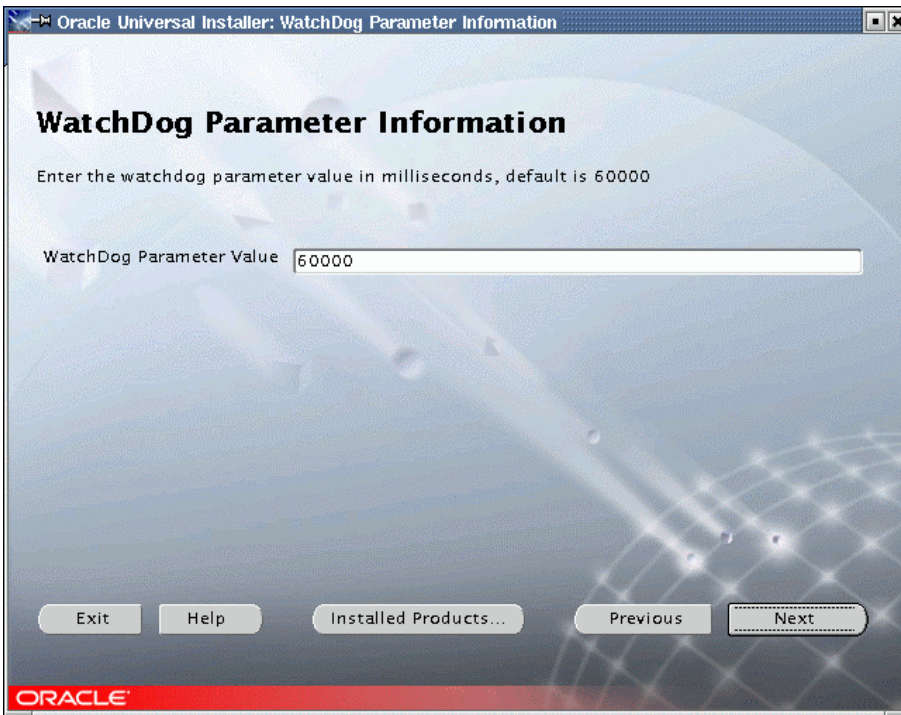

Figure 35. WatchDog Parameter
- The Watchdog parameter window (Figure 35) asks you for the watchdog parameters. Simply accept the default value (60000) and click **Next** to continue.